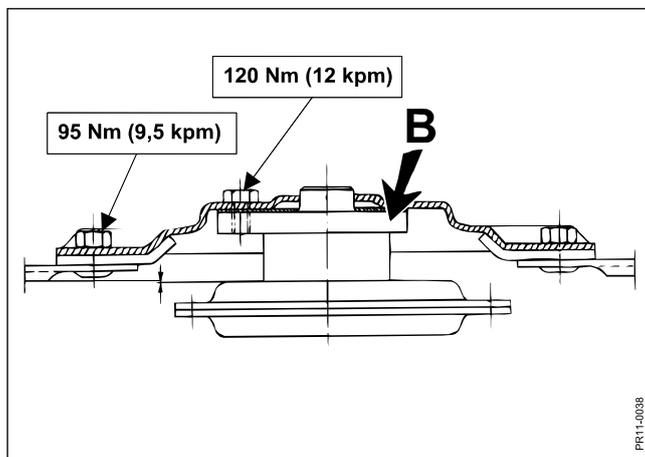

Fig. 5-15
- Fig. 5-15** Make sure that the bolts have been tightened as shown.